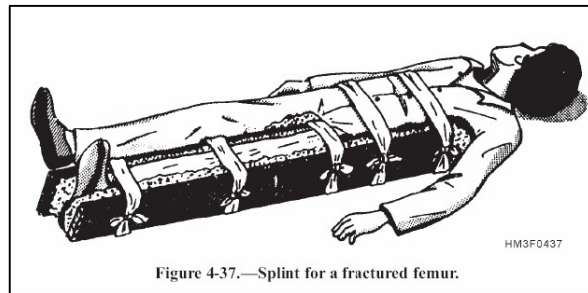

Figure 4-37.—Splint for a fractured femur.
Carefully straighten the leg. Apply two splints, one on the outside of the injured leg and one on the inside. The outside splint should reach from the armpit to the foot. The inside splint should reach from the crotch to the foot. The splints should be fastened in five places: (1) around the ankle; (2) over the knee; (3) just below the hip; (4) around the pelvis; and (5) just below the armpit (fig. 4-37). The legs can then be tied together to support the injured leg as firmly as possible.
It is essential that a fractured thigh be splinted before the victim is moved. Manufactured splints, such as the Hare or the Thomas half-ring traction splints, are best, but improvised splints may be used. Figure 4-37 shows how boards may be used as an emergency splint for a fractured thigh. Remember, **DO NOT MOVE THE VICTIM UNTIL THE INJURED LEG HAS BEEN IMMOBILIZED**. Treat the victim for shock, and vacate at the earliest possible opportunity.